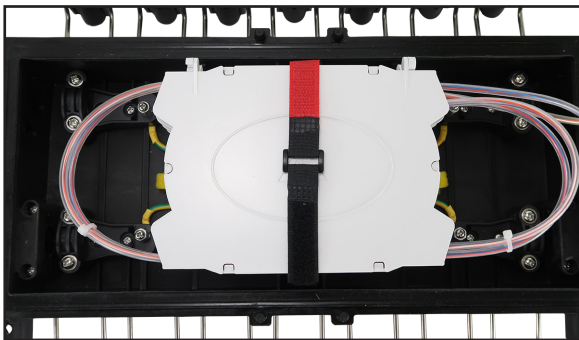

Figure 1-33: Close the splicing tray cover
- 4 Close the cover of the splicing tray and secure it with the bondage belt (Figure 1-33).